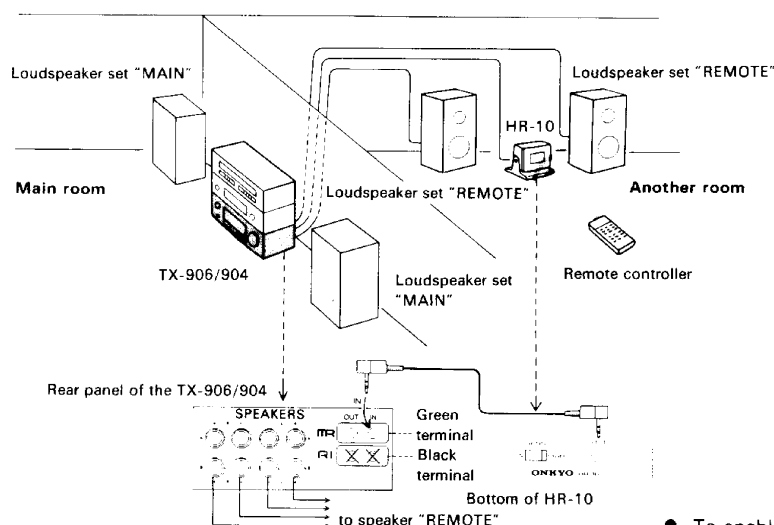

Fig. 1
- When using only the HR-10 (option) to control TX-906/904 in the main room from another room, connect them as shown in Fig. 1. In this case, ONKYO CD player and cassette tape deck bearing the **RI** mark connected to the TX-906/904 can be controlled.